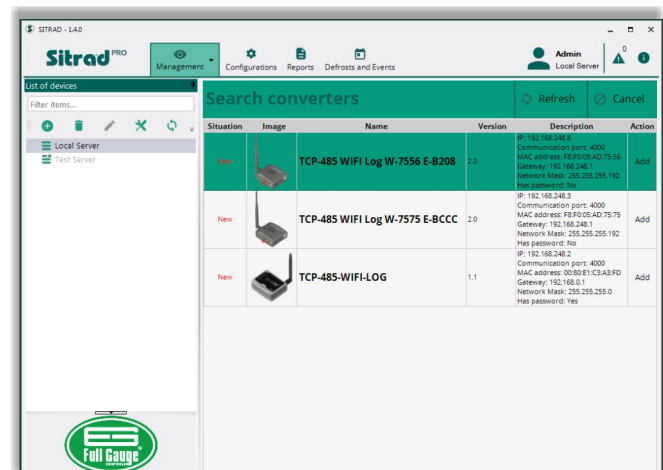

Figure 27
Step 3: Sitrad™ should perform the search on the network, and the available converters should appear in the **Converter Search** tab (Figure 27). Select the desired converter and click **Add**.